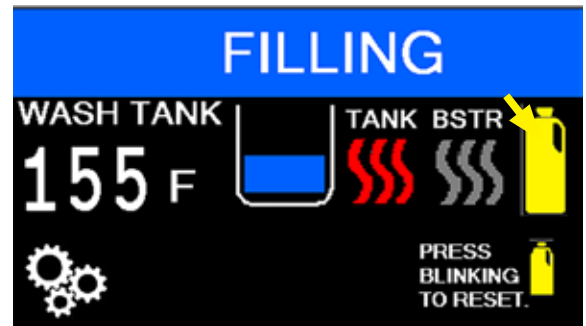

Fig. 37 - LOW DETERGENT ALERT - (flashing bottle)
4. This is repeated for two minutes or until tank sensor is satisfied. The flashing yellow bottle "LOW DETERGENT ALERT" will appear if tank sensor is not satisfied within two minutes, (pg. 19, Fig. 37).